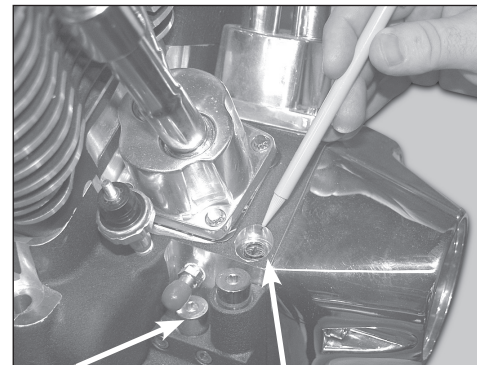

FIG. 6
All engines should be checked for oil pressure prior to start up. Oil pressure should be visible at the top end feed screen plug, which is located to the rear of the rear lifter block on the cam cover side. See Figure 6.
**Note:** If you have difficulty priming your engine's oil pump you can remove the oil pump's check ball (see Figure 6) and fill the check ball cavity with engine oil and then reinstall the check ball. By doing this you are removing air pockets in the pump and flooding the pump's feed gears with oil. Generally this will greatly speed the priming process.